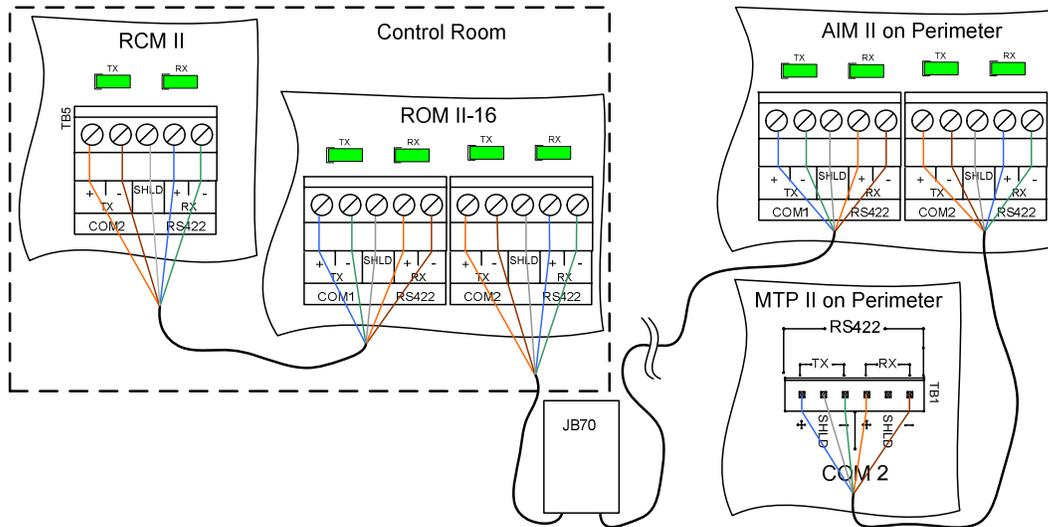

Figure 4 –RCM II Communications Wiring Diagram
Figure 4 shows the typical RS422 wiring diagram from the Relay Control Module II (RCM II) to other INTREPID™ Series II devices. In this case an Alarm Input Module II (AIM II) and a MicroTrack Processor II (MTP II) located on the perimeter. The RCM II and the Relay Output Module II-16 (ROM II-16) are located in the control room for relay output interface to other control room devices. A maximum of eight (8) devices can be connected to the RS422 communications line. The communications is RS422 and should use a 22 or 24 gauge twisted, stranded, shielded pair wire. Fiber optic devices can be used as well. Since this RS422 communications format is a point to point configuration, no termination device is required for the last unit on the line. The RS422 communications wiring is from the transmit side of one device to the receive side of the next device with the wiring from + to + and – to – as shown in Figure 4.